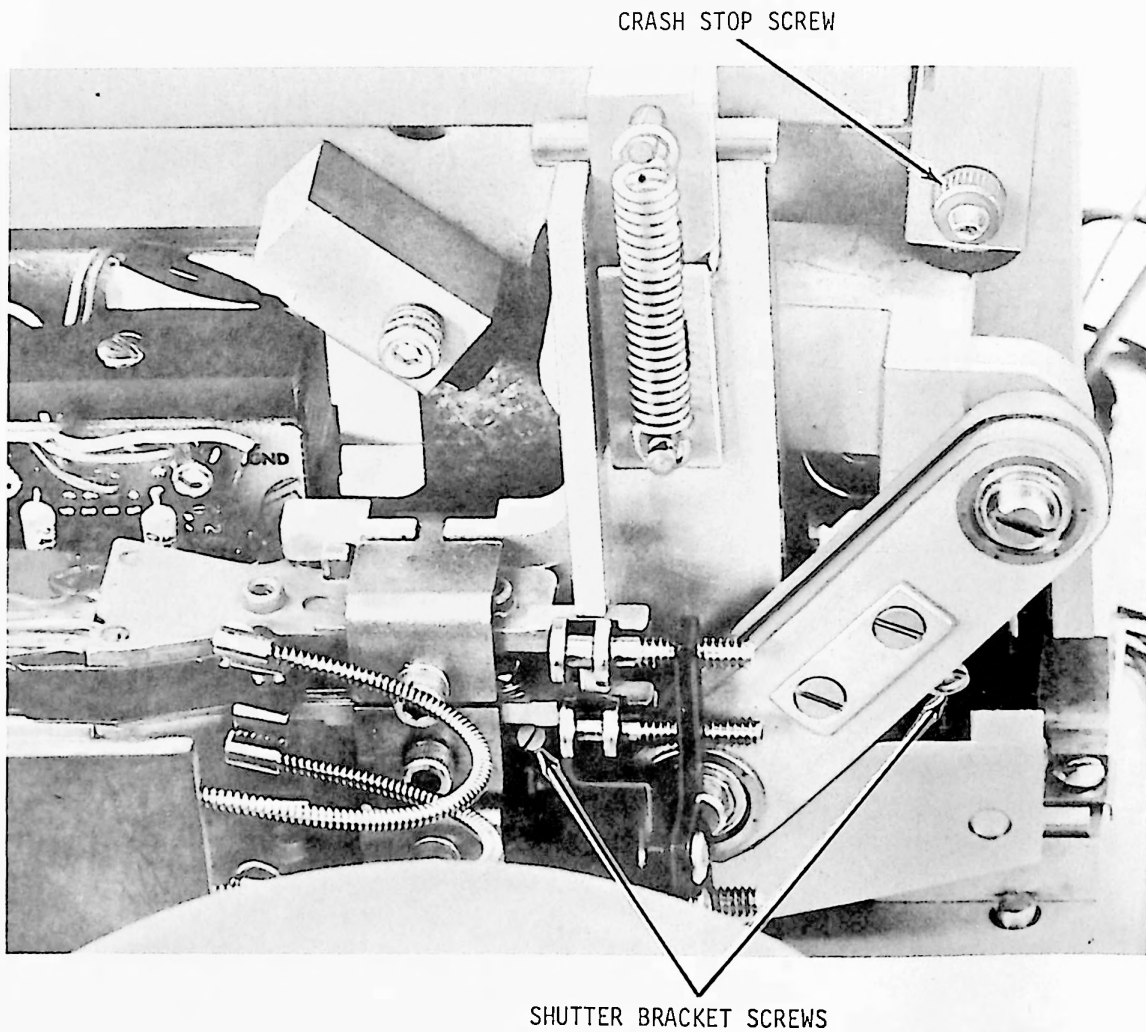

Figure 3-28. Shutter Removal, Crash-Stop and Shutter Adjusting Bracket Mounting Screws
7. Loosen rear shutter adjusting bracket mounting screw two turns (figure 3-28).
9. While holding shutter assembly at back of drive, loosen front shutter adjusting bracket mounting screw until shutter separates from carriage (figure 3-28).